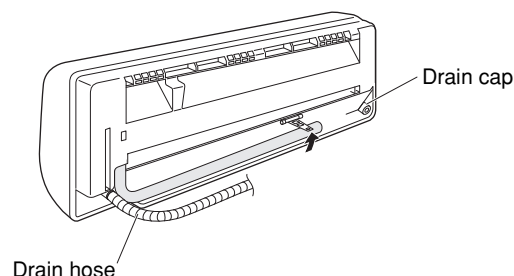

Fig. 39c
- (b) Locate the drain hose and the drain cap. (Fig. 39c)